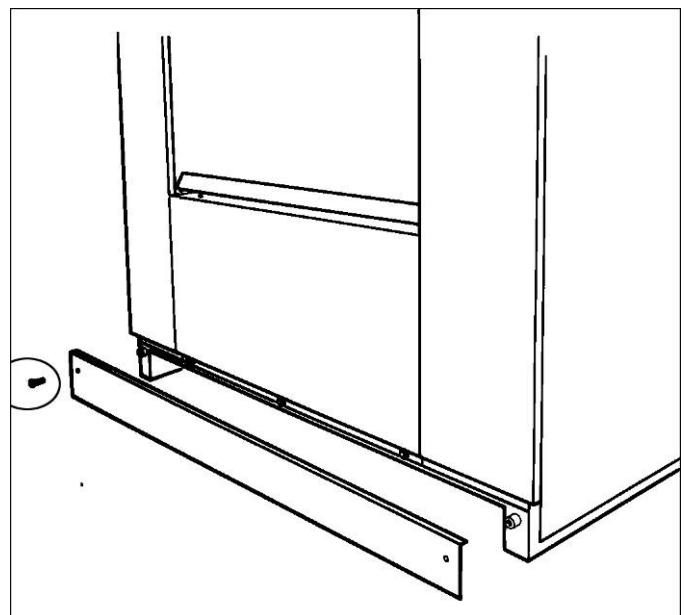

Fig. 2.8
- Assemble the toe plate (Fig. 2.8). This piece is shipped disassembled from the machine.